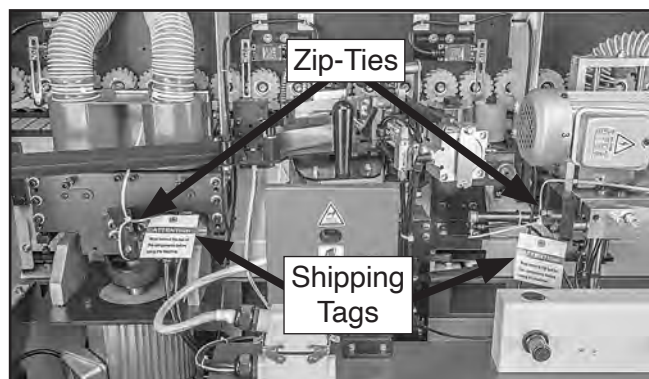

Figure 28. Locations of shipping tags to be removed.
11. Open rear maintenance door and install glue pot lid (see **Figure 28**).
12. Remove (2) shipping tags and zip-ties from pre-mill and end-trimming motors, as shown in **Figure 28**.